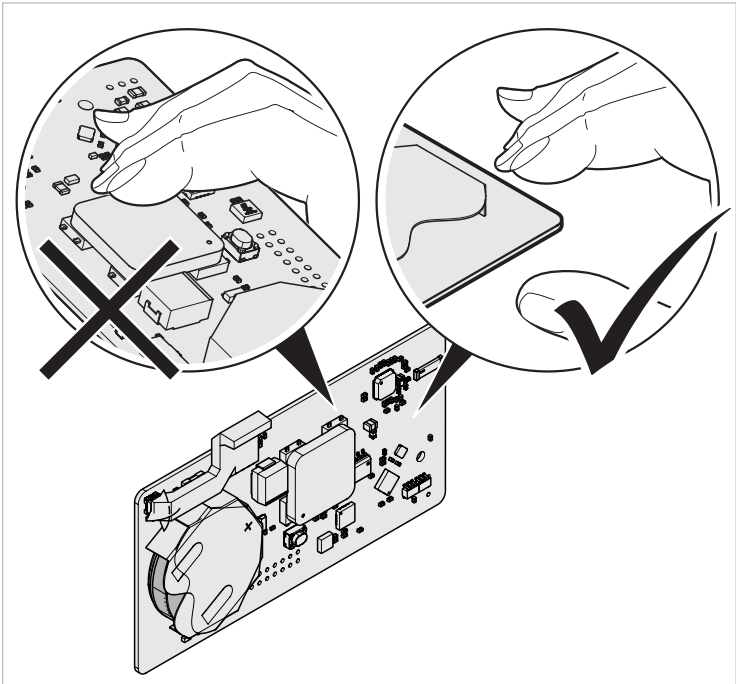
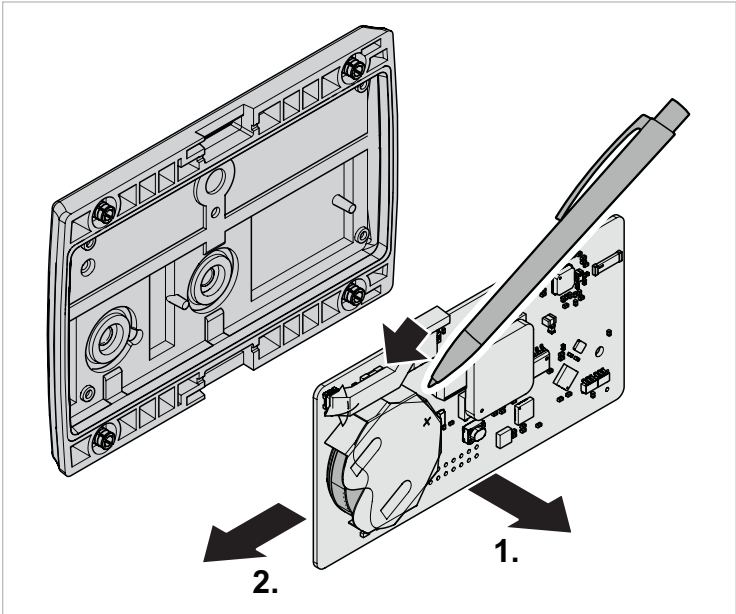

Fig. 14 Holding the printed circuit board by the edges
Fig. 15 Remove the battery
2. Carefully lift the printed circuit board by holding it by the edges (Fig. 14) (1., Fig. 15).
3. Remove the used battery. Push the battery out of its compartment with the help of e.g. a pencil (2, Fig. 15).